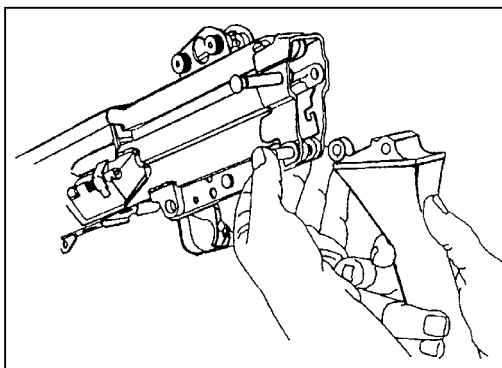

Figure 1-27. Replacement of the buttstock and buffer assembly group.
d. **Replacing the Buttstock and Buffer Assembly Group.** Align the lower hole in the buttstock and buffer assembly with the rear hole in the trigger mechanism; then push the lower retaining pin to the right (Figure 1-27).